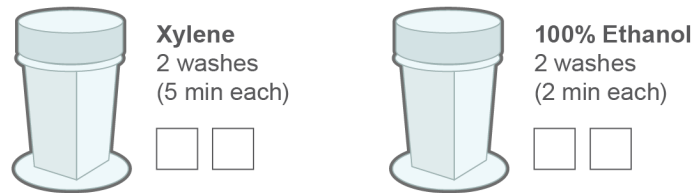

Figure 4: Deparaffinize FFPE Tissue Sections
4. Prepare staining jars with enough xylene and ethanol to cover tissue (Figure 4). Ensure you have sufficient buffer to completely cover the tissue on all slides without submerging the slide labels. Contact with buffer may make slide labels illegible.
1. Remove the slides from the baking oven and gently perform the following washes using staining jars (Figure 4).